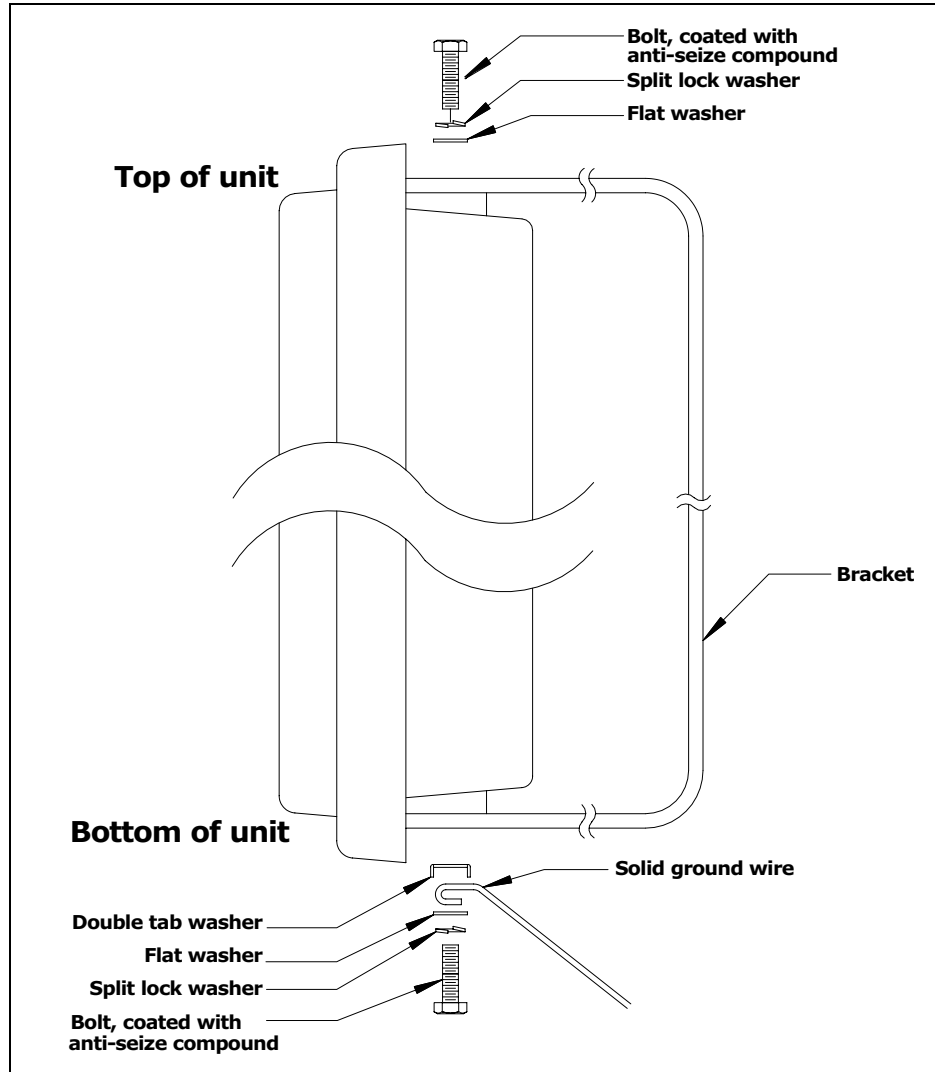

Figure 8 Mounting bracket screw assembly
Figure 8 illustrates how the screw, split lock, flat washer and double-tab washer are put together.
- 1** For the top of the mounting bracket, assemble the bolt (coated with anti-seize compound), split lock washer and flat washer as shown in Figure 8.
- 2** For the bottom of the mounting bracket, assemble the bolt (coated with anti-seize compound), split lock washer, flat washer, ground wire, and double-tab washer, as shown in Figure 8.